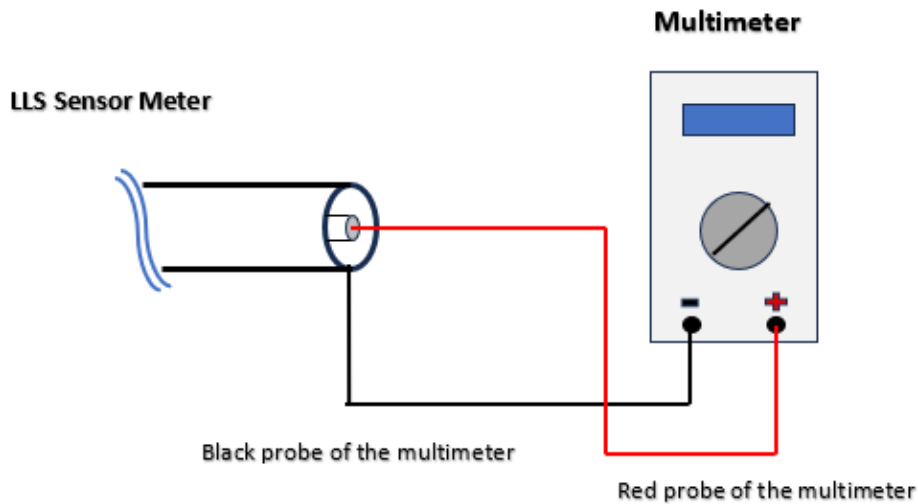

Fig. 12 Connection Diagram
2. Assemble the connection circuit according to "Fig. 12 Connection Diagram".